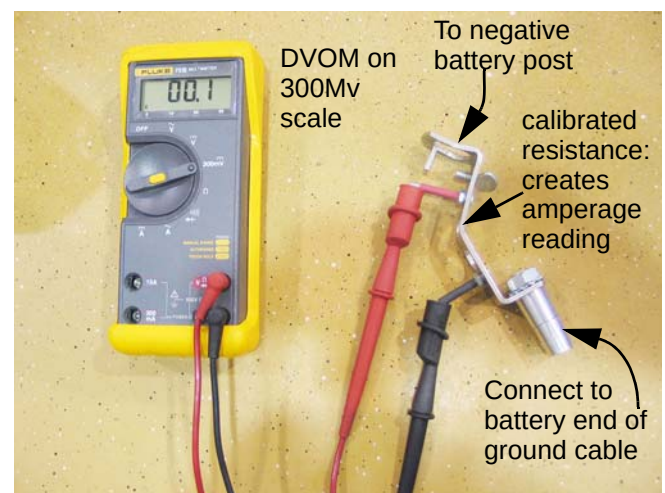

Figure 7.25
- Briggs and Stratton sells a DC Shunt that converts amperage into a reading on the millivolt scale of a DVOM. Briggs and Stratton part # 19359 covers low amperage systems, while part # 19468 tests higher amperage systems. See Figure 7.25.